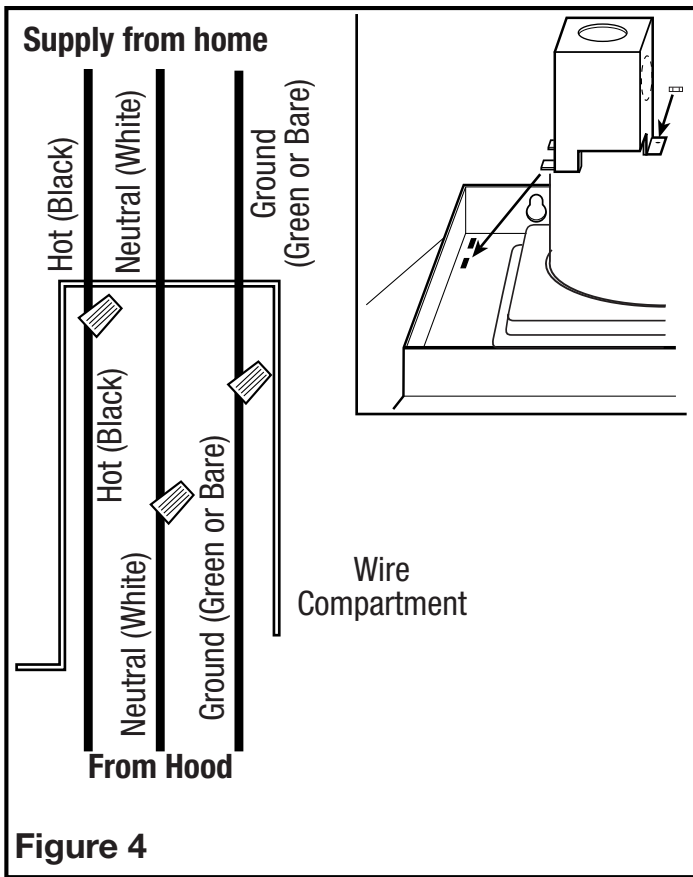

Figure 4
3. Connect the White wire from the range hood to the White wire from the supply, and the Black wire from the range hood to the Black wire of the supply. Connect the ground wire from the hood (green or bare) and the Green wire from the range hood. Use approved methods for all connections. Reinstall the wire compartment by sliding the tabs back into the holes then reinstalling the screw that was removed earlier. Make sure all wiring is securely contained within the wire compartment (**Figure 4**).